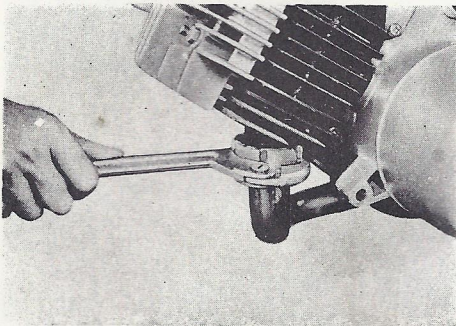

Fig. 3-1-2
2. Remove the exhaust pipe and muffler. (Fig. 3-1-2 and 3)